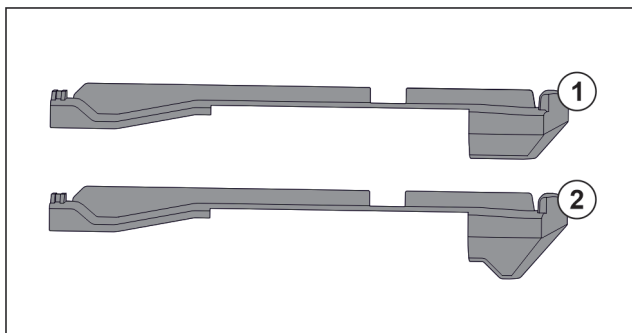

Fig. 74 Comparing attachments
There are two different attachments in the appliance. The attachment above the lowest drawer Fig. 74 (2) has a three-cornered edge. All other attachments Fig. 74 (1) have a straight edge.
- ▶ Fit attachment Fig. 74 (2) with the three-cornered edge above the lowest drawer.
- ▶ Fit attachment Fig. 74 (1) with straight edge in all other positions.